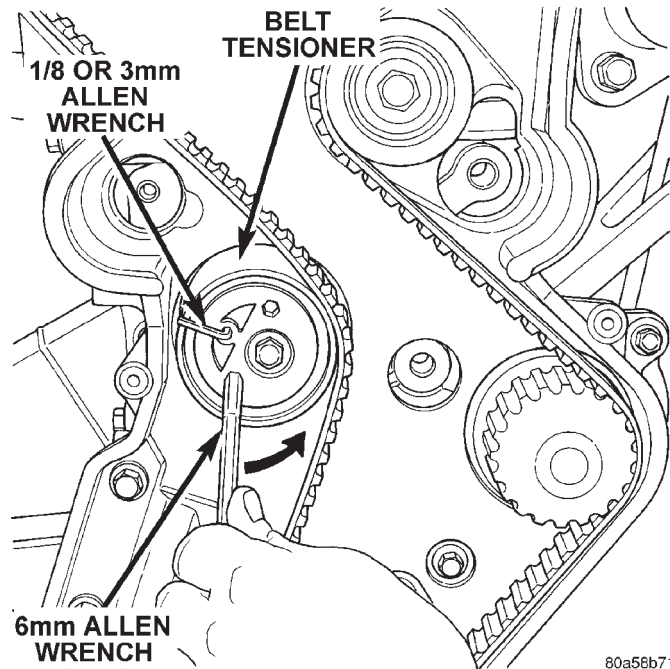

Fig. 55 Locking Timing Belt Tensioner
(9) Install 6 mm Allen wrench into belt tensioner. Before rotating the tensioner insert the long end of a 1/8" or 3 mm Allen wrench into the pin hole on the front of the tensioner (Fig. 55). While rotating the tensioner counterclockwise push in lightly on the 1/8" or 3 mm Allen wrench, until it slides into the locking hole.
(10) Remove timing belt.